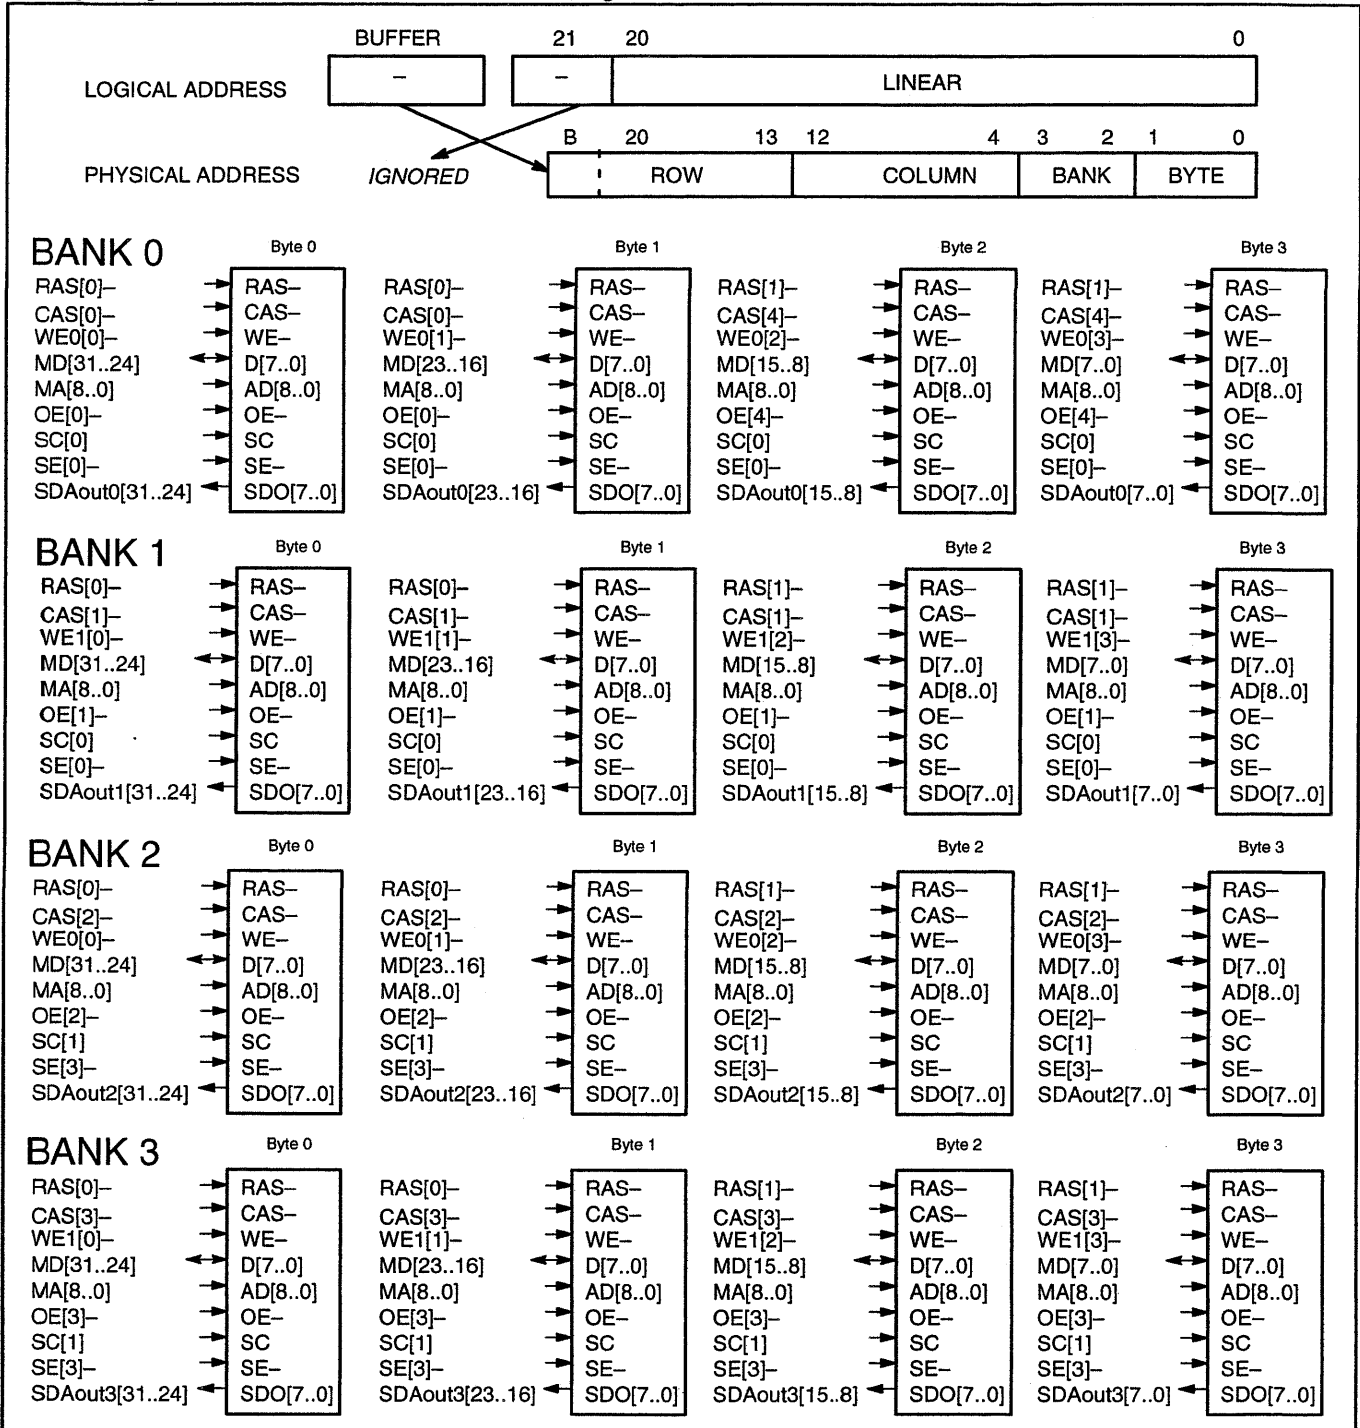

Figure 112. Config 15 (mem_config.config = 1111) 4 banks of 256K VRAMS, 2 buffers of 2MB
Figure 112 assumes that you are using a 64-bit wide RAM-DAC. If you are using a 32-bit wide RAMDAC, use external logic to generate additional serial enable (SE) signals to address banks 1 and 2. Refer to the *Power 9100/Video Power Board Application Note* for more information.